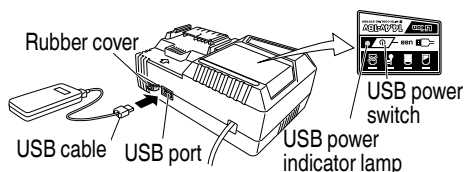

Fig. 13
- (2) Turn the USB power switch ON (Fig. 13)
- (3) Connect the USB cable. (Fig. 13)
- Turn the USB power switch OFF and unplug the power cord from the electrical outlet. (Fig. 13)